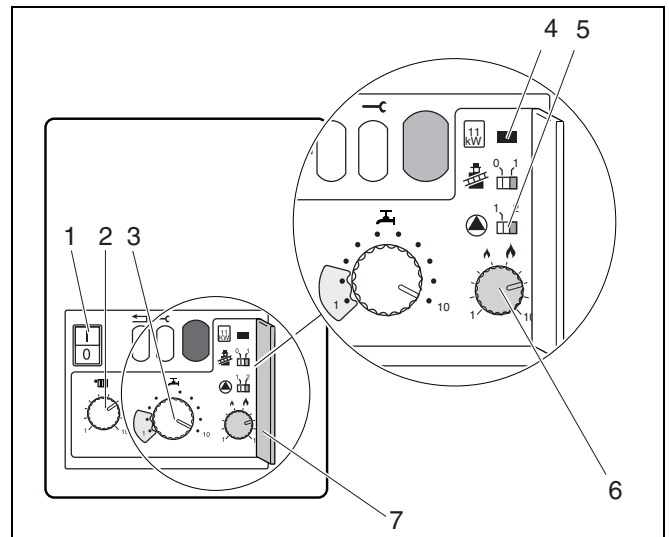

fig. 31 Controls
Key to fig. 31
- Set the controller (fig. 31, item 2) to the desired maximum flow temperature in accordance with the system design and table 6.
- Use the controller (fig. 31, item 3) to set the desired domestic hot water temperature in accordance with table 7.
- Open the cover of second control level (fig. 31, item 7).
- Set the heating capacity in accordance with the required heat demand (table 8) on the controller (fig. 31, item 6). Take into account the appropriate losses caused by the flue gas system (table 9).
- Move the switch  (fig. 31, item 4) to position "1". Pump over-run time 4 minutes.